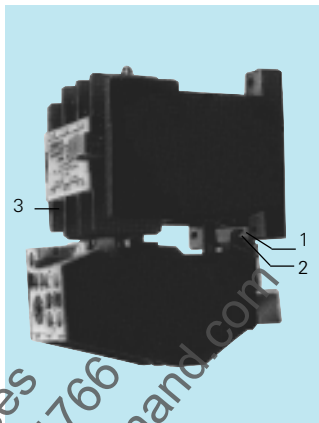

Fig. 9-1 Contactor - Birelay Connection
- Lift the overload relay vertically upwards to disengage its hook (fig. 9-1) from the slot of the bracket (fig. 4B-8) welded on the starter body.
- iii. Ensure that the relay hook (fig. 9-1) is engaged in the slot of the bracket (fig. 9-2) welded to the housing and slide the relay inwards till the cover is flush with contactor ribs. (fig. 9.3)